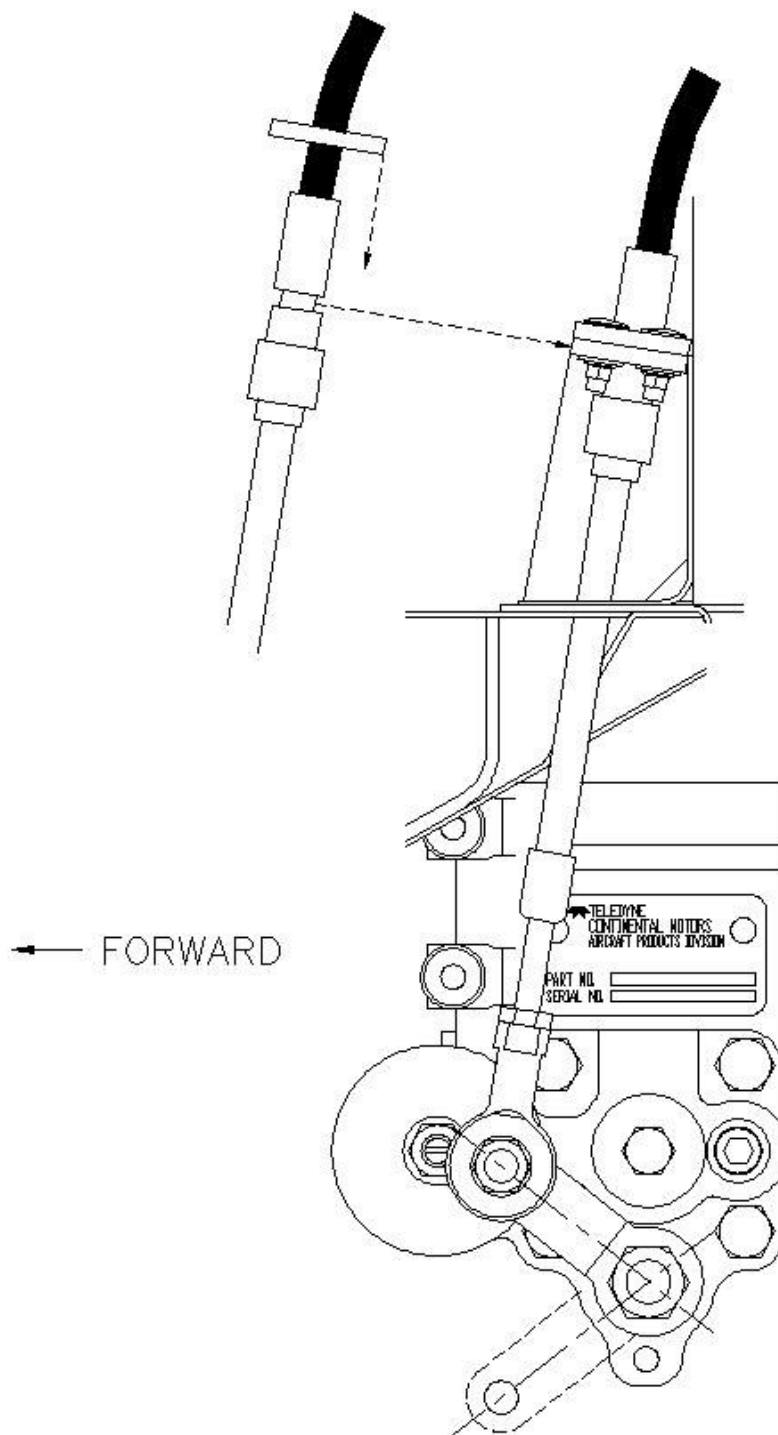

Figure 6: Mixture Cable Installation
- 10.22** Insert the end of the Bowden cable into the new slot in the apron. Slide the notch in the Bowden cable into the new mixture cable support bracket, as shown in Figure 6.
- 10.25** Install the new mixture arm onto the altitude compensating fuel pump and orient the arm so that it is pointing forward and parallel to the ground when in the middle of its range of motion. See Figure 6. Tighten the nut on the mixture lever.